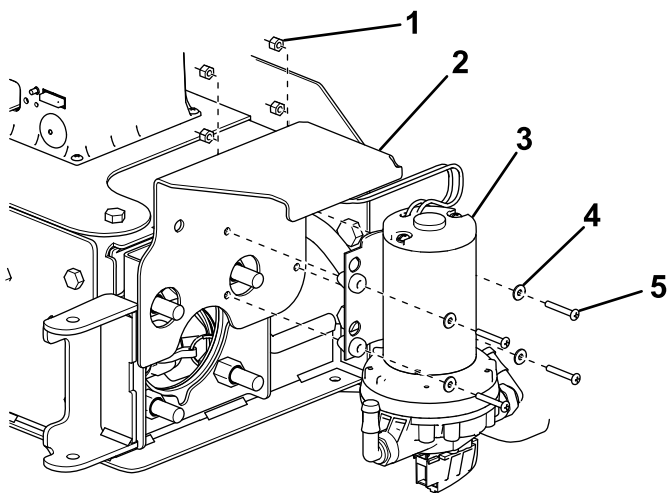

Figure 20
11. Secure the pump to the pump bracket using 4 bolts (#10 x 1-1/4 inches), washers, and nylon nuts (Figure 20).